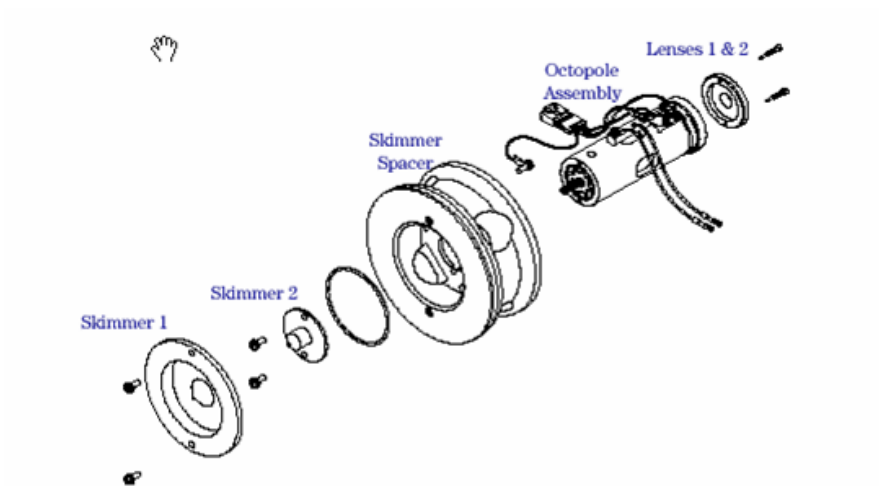
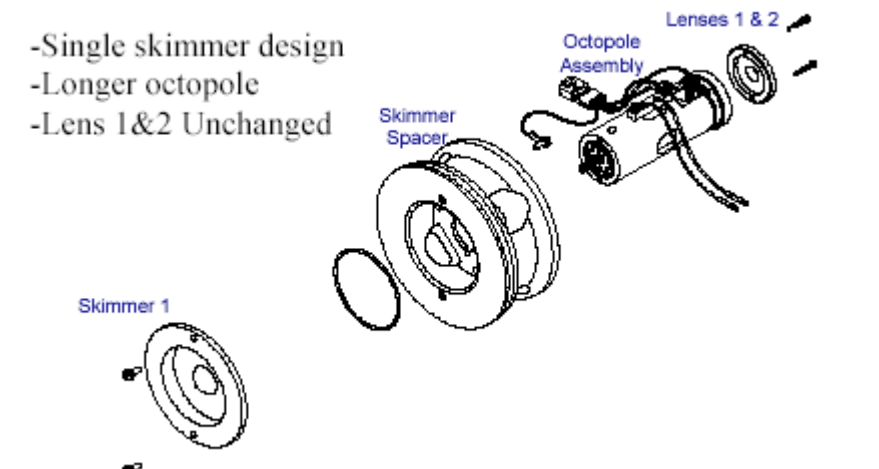

Figure 60 An exploded view of the ion optics assembly for instruments with skimmer 2 (6120).
Figure 61 An exploded view of the ion optics assembly for instruments without skimmer 2 (6130 or 6150)
- Figure 60 and Figure 61 show the exploded view of the ion optics assembly.